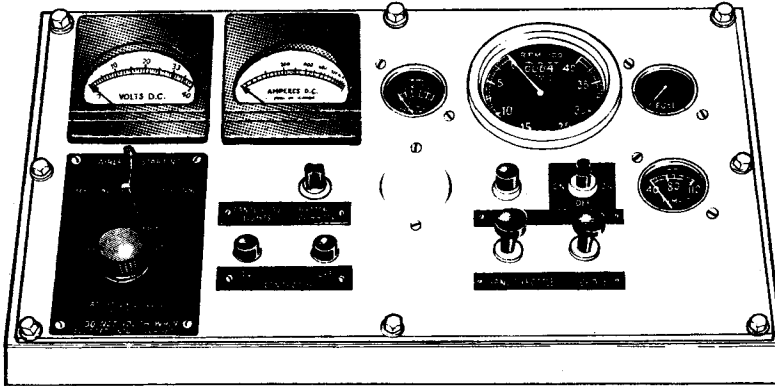

Fig. 9 Control panel
21. **Control panel.** Figure 9 shows a general view of the control panel which has the engine instruments and controls on the right and the generator instruments on the left. The d.c. voltmeter is connected to the voltage sensing cables in the NATO socket and records the actual voltage being supplied at the aircraft plug.